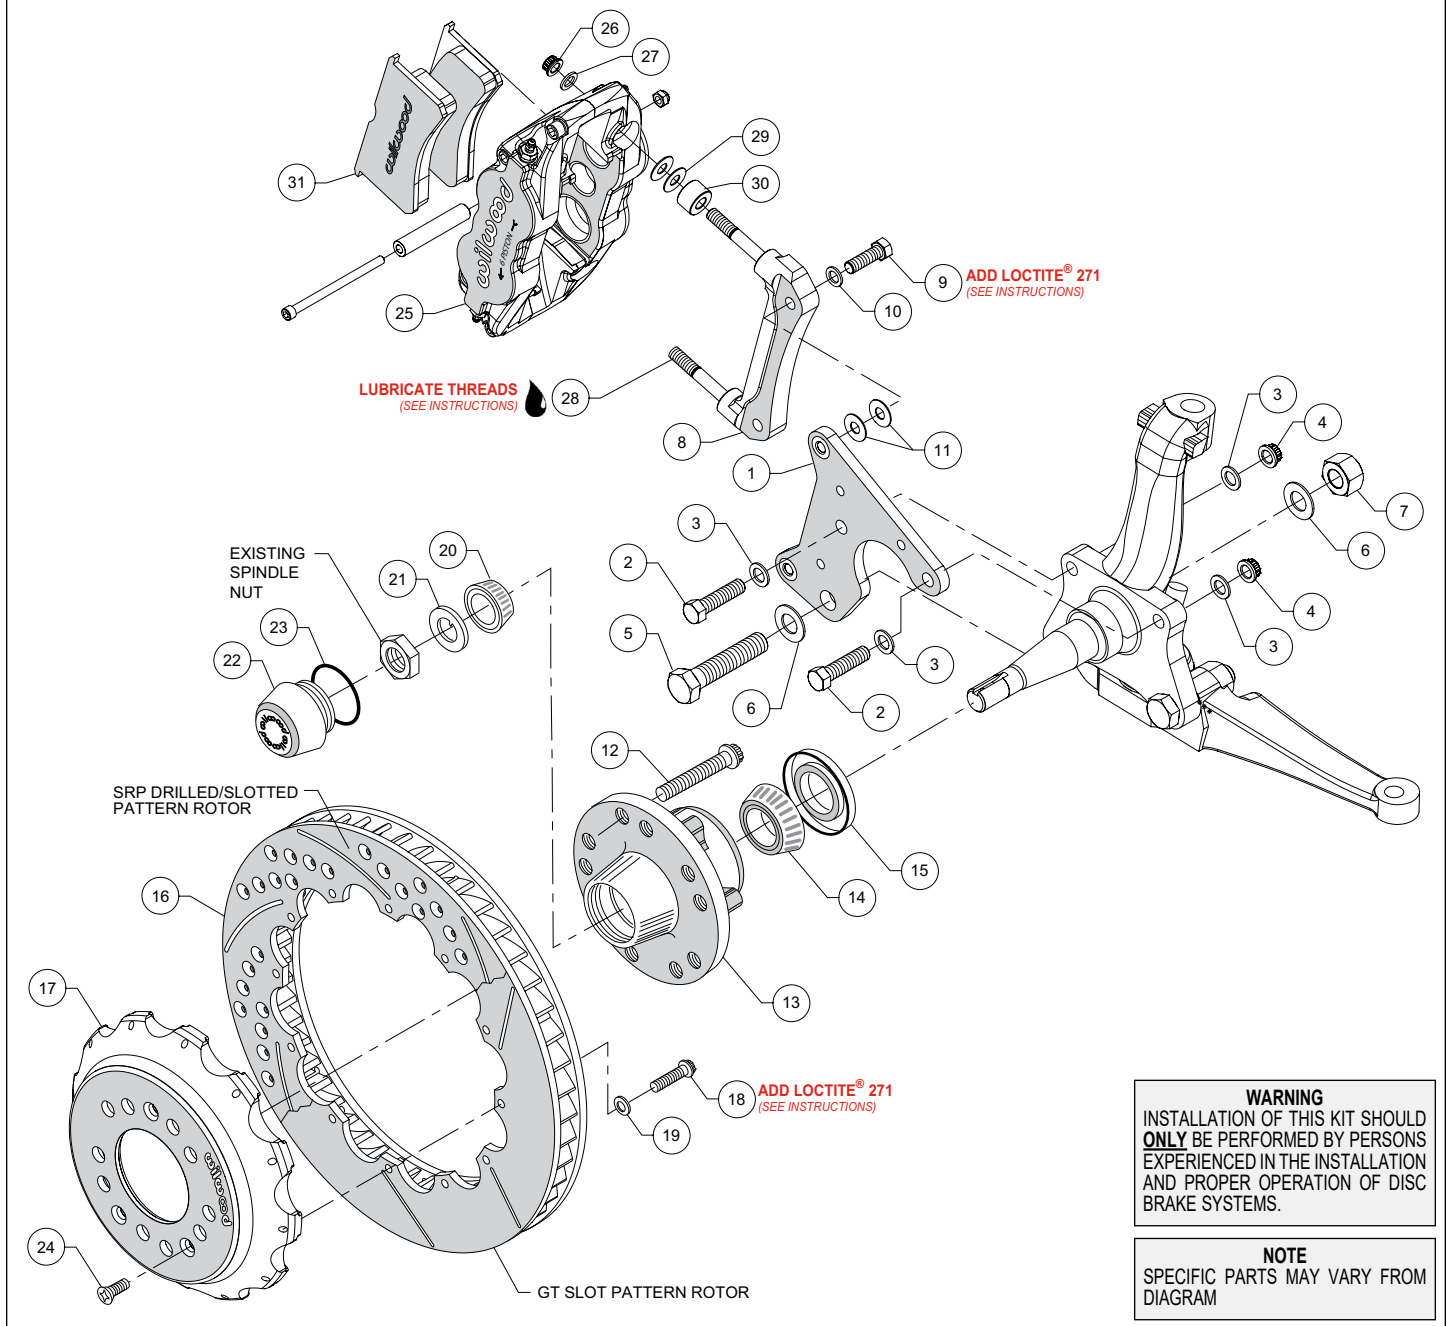

Figure 1. Typical Installation Configuration
NOTE: Numbers in parenthesis refer to the parts list and Figure 1 on the preceding pages.
- Orient the spindle bracket (1) as shown in Figure 1 and Photo 1, and install using bolts (2), washers (3), and nuts (4) on the top holes and bolt (5), washers (6), and nut (7) on the bottom hole, Figure 1 and Photo 1. Temporarily tighten the mounting bolts. Ensure that the flanged heads of the clinch nuts in the bracket are facing outboard, Photo 1. **NOTE:** The bracket must fit squarely against the mounting points on the spindle. Inspect for interference from casting irregularities, machining ridges, burrs, etc. Torque nuts (4) to 47 ft-lbs. and nut (7) to 140 ft-lbs.
- The caliper mount radial bracket (8) should initially be installed with clean, dry threads on the mounting bolts. Orient the bracket as shown in Figure 1, and Photo 2. Install onto the spindle bracket using bolts (9), and washers (10). Initially place two .035 thick shims (11) on each bolt between the radial and spindle brackets, Figure 1. Temporarily tighten the mounting bolts. Later, after the caliper alignment has been checked, the mount bolts will be secured using red *Loctite*® 271.
- Install wheel studs (12) into the hub (13), Photo 3. Torque to 77 ft-lb. **NOTE:** There are two five lug patterns in the hub (5 x 4.50 and 5 x 4.75). Ensure the correct hub stud pattern is being used to fit the wheel application.
- Pack the large inner bearing cone (14) with high temperature disc brake bearing grease (available from your local auto parts store) and install into the backside of the hub (13), Photo 4.
- Install the grease seal (15) by pressing into the backside of the hub (13), flush with the end of the hub, Photo 4.
- Orient the rotor (16) and the hat (17) as shown in Figure 1 and Photo 5. Attach rotor to hat using bolts (18) and washers (19). Apply red *Loctite*® 271 to the bolt threads and torque to 155 in-lb
- Screw dust cap (22) into hub (13), Photo 7. Friction created by the o-ring (23) on the dust cap keeps it from unscrewing. **NOTE:** The O.D. of the existing OEM spindle washer may be larger than the I.D. of the dust cap not allowing it to seat against the hub face. Therefore, use the spindle washer (21) supplied with the kit instead of the OEM washer.
- Slide the hat/rotor assembly (16/17) onto the hub (13) taking care to align the small countersunk holes in the hat with the small threaded holes in the hub. **NOTE:** The hat must fit flush against the hub face or excessive rotor run out may result. Install three flat head screws (24) through the small holes in the hat, Photo 7, and torque to 85 in-lb.
- NOTE:** This kit contains distinct right and left hand calipers that must be mounted in a specific direction, as described below. Lubricate the caliper mounting studs (28) with lightweight oil. Initially place one spacer (30), and two .035" thick shims (29) on each stud between the caliper and the bracket, as shown in Figure 1 and Photo 8. Mount the caliper (25) onto the bracket (8) using lock nuts (26) and washers (27), Figure 1. Ensure that the caliper is mounted so the largest pistons are at the rotor exit end of the caliper, in relation to the direction of rotor rotation. Temporarily tighten the lock nuts and view the rotor through the top opening of the caliper. The rotor should be centered in the caliper, Photo 9. If not, adjust by adding or subtracting shims (11) between the spindle bracket (1) and the caliper mount bracket (8). Always use the same amount of shims on each of the two mounting bolts. Once the caliper alignment is correct, remove the radial bracket mounting bolts one at a time, apply red Loctite® 271 to the threads, and torque to 40 ft-lb. **NOTE:** The end of the bolts must be flush with, or protruding through, the head of the clinch nut.